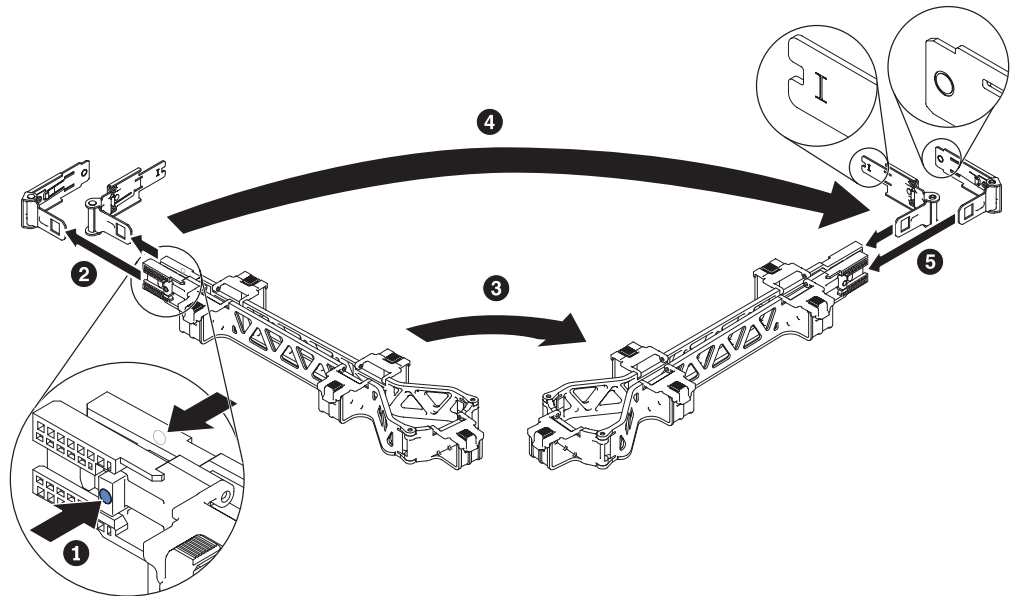

Figure 40. Installing the cable management arm on the opposite side
10. Optional: You can install the cable management arm assembly on the opposite side, as shown in Figure 40 on page 49.